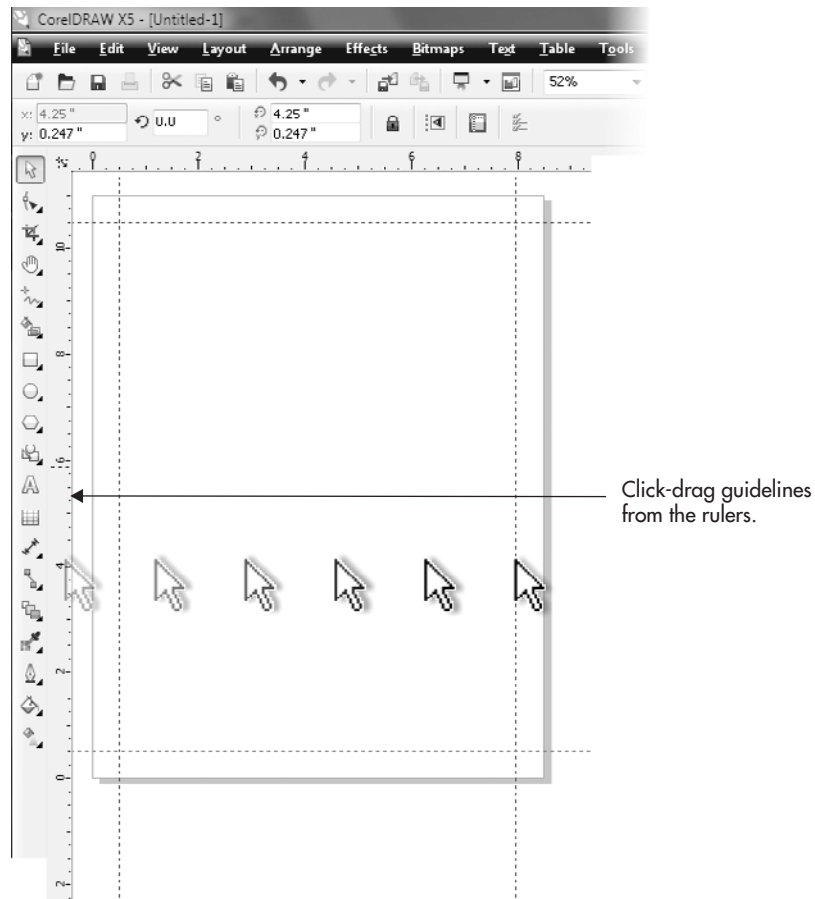

FIGURE 5-1 Set up your page so there is a 1/2-inch margin on all sides for printing to inkjet transfer paper.
4. Similarly, drag a guideline to the bottom ½-inch margin you'll need. Then drag vertical guidelines out of the vertical ruler (at the left of the drawing window) to create ½-inch vertical margins inside the page. Your screen should look like Figure 5-1 now.